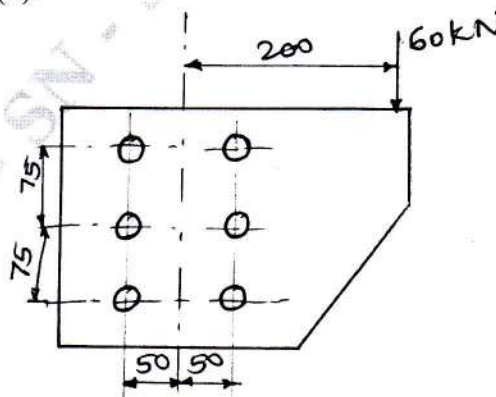

Fig.Q7(b) All dimensions are in mm.
- b. A bracket is riveted to a column by 6 rivets of equal size as shown in Fig.Q7(b). It carries a load of 60 kN at a distance of 200 mm from the centre of the column. If the maximum shear stress in the rivet is limited to  $150\text{ N/mm}^2$ . Determine the diameter of rivet. Following figure shows the arrangement Fig.Q7(b).